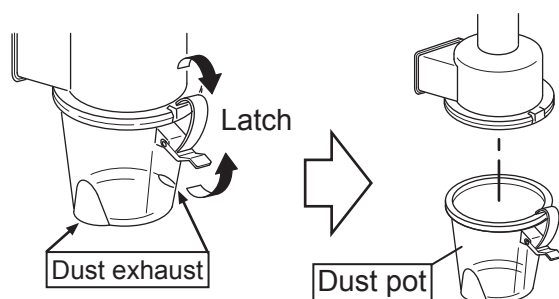

Figure 22. Unlatching Dust Pot
1. Release locking latch (Figure 22) on dust pot and remove dust pot from air cleaner body.